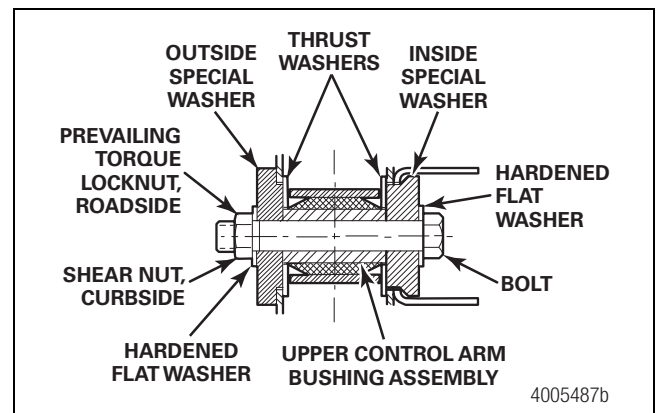

Figure 12
- G. Ensure that the pilots on the special washers go through the holes in the side plates and do not seize. Tighten the nuts to the final specifications. Figure 12.